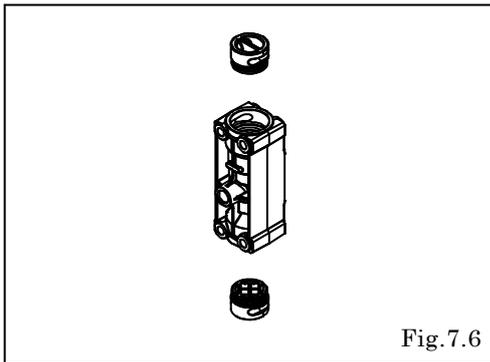

Fig.7.6
- Remove the cap using the Pliers. [Fig.7.6]